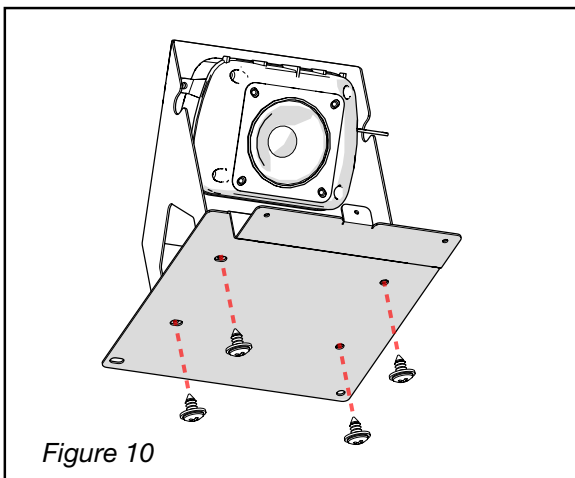

Figure 10
3. Remove the four screws that hold the speaker. (Figure 10)